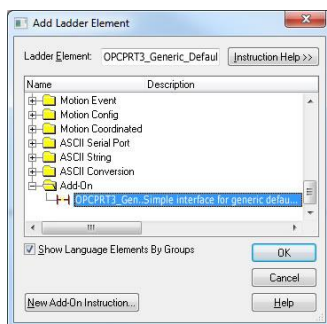

Figure 45: Add Generic Default Add-On Instruction
- 8) Select the generic default I/O add-on instruction in the Add-On folder. Refer to Figure 45.